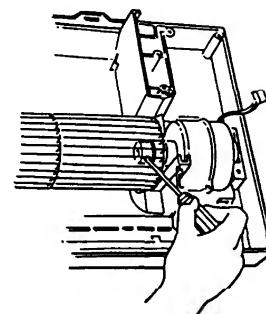

Fig. D-8
- 2) When withdrawing the fan from the motor, first loosen the fan fixing bolts using a hexagonal key (Fig. D-8).